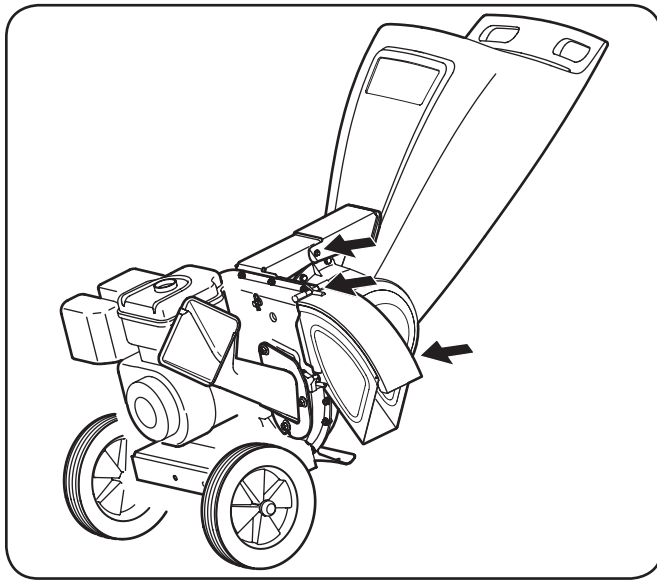

Figure 6-1
1. Lubricate the release rod and spring with light oil once a season. See Figure 6-1.